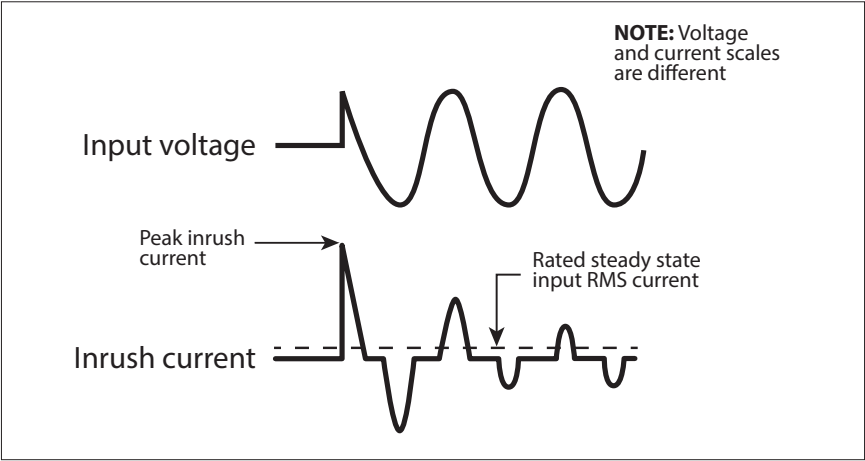

Fig 4.1: Inrush current in an SMPS
- **AC to DC Switched Mode Power Supplies (SMPS):** This type of power supply is used as stand-alone power supply or as front end in all electronic devices powered from Utility / Grid e.g. in audio/video/ computing devices and battery chargers (Please see Section 4 for more details on SMPS). When this power supply is switched ON, its internal input side capacitors start charging resulting in very high surge of Inrush Current for a few milliseconds (Please see Fig 4.1). This surge of inrush current / power may reach up to 15 times the Continuous Maximum Running Power Rating. The surge of inrush current / power will, however, be limited by the Surge Power Rating of the AC source.
**Power Factor, (PF):** It is denoted by “PF” and is equal to the ratio of the Active Power (P) in Watts to the Apparent Power (S) in VA. The maximum value is 1 for resistive types of loads where the Active Power (P) in Watts = the Apparent Power (S) in VA. It is 0 for purely inductive or purely capacitive loads. Practically, the loads will be a combination of resistive, inductive and capacitive elements and hence, its value will be  $> 0 < 1$ . Normally it ranges from 0.5 to 0.8 e.g. (i) AC motors (0.4 to 0.8), (ii) Transformers (0.8) (iii) AC to DC Switch Mode Power Supplies (0.5 to 0.6) etc.
**Reactive Load:** A device or appliance that consists of a combination of resistive, inductive and capacitive elements (like motor driven tools, refrigeration compressors, microwaves, computers, audio/ video etc.). The Power Factor of this type of load is  $< 1$  e.g. AC motors (PF=0.4 to 0.8), Transformers (PF=0.8), AC to DC Switch Mode Power Supplies (PF=0.5 to 0.6) etc. These devices require Apparent Power (VA) from the AC power source. The Apparent Power is a vectorial sum of Active Power (Watts) and Reactive Power (VAR). *The AC power source has to be sized based on the higher Apparent Power (VA) and also based on the Starting Surge Power.*
Switch Mode Power Supplies (SMPS) are extensively used to convert the incoming AC power into various voltages like 3.3V, 5V, 12V, 24V etc. that are used to power various devices and circuits used in electronic equipment like battery chargers, computers, audio and video devices, radios etc. SMPS use large capacitors in their input section for filtration. When the power supply is first turned on, there is a very large inrush current drawn by the power supply as the input capacitors are charged (The capacitors act almost like a short circuit at the instant the power is turned on). The inrush current at turn-on is several to tens of times larger than the rated RMS input current and lasts for a few milliseconds. An example of the input voltage versus input current waveforms is given in Fig. 4.1. It will be seen that the initial input current pulse just after turn-on is > 15 times larger than the steady state RMS current. The inrush dissipates in around 2 or 3 cycles i.e. in around 33 to 50 milliseconds for 60 Hz sine wave.